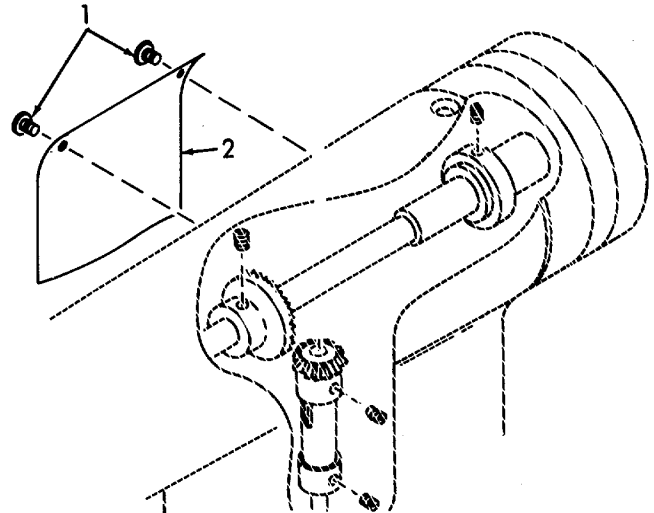

Figure 6-103. Side Cover, Removal.
a. Removal (Refer to Figures 6-103 and 6-104).
(1) Refer to Figure 6-103. Remove two screws (1).
(2) Remove cover (2).